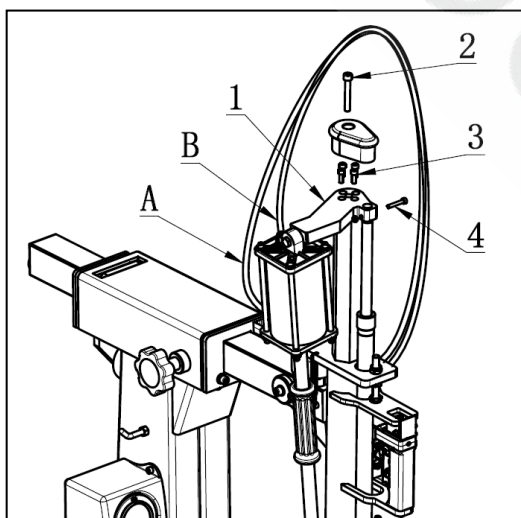
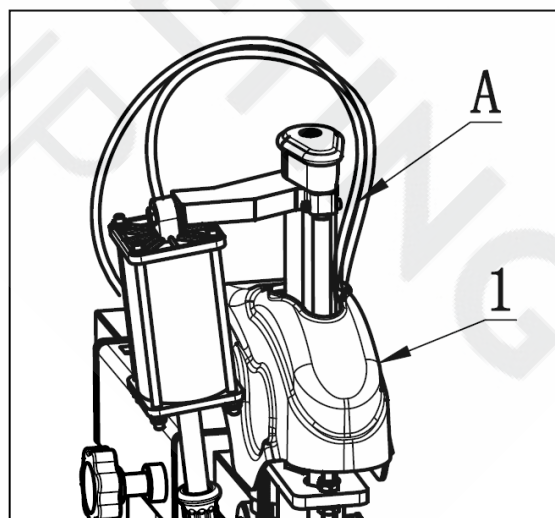

FIG17
FIG18
- First pull out the hoses at both ends of lifting cylinder of hook (FIG17-A, FIG17-B); remove the screws FIG17-2, 17-3, and 17-4 respectively using the wrench 6#, 5#, 4#. Rotate slightly the connection board (FIG17-1) to side and install the protective cover (FIG18-1) from hex bar upper end. When install the cover, need cross the two hoses (FIG18-A) from the cover center hole like IFG18. Then install the screws which removed in FIG17 separately.